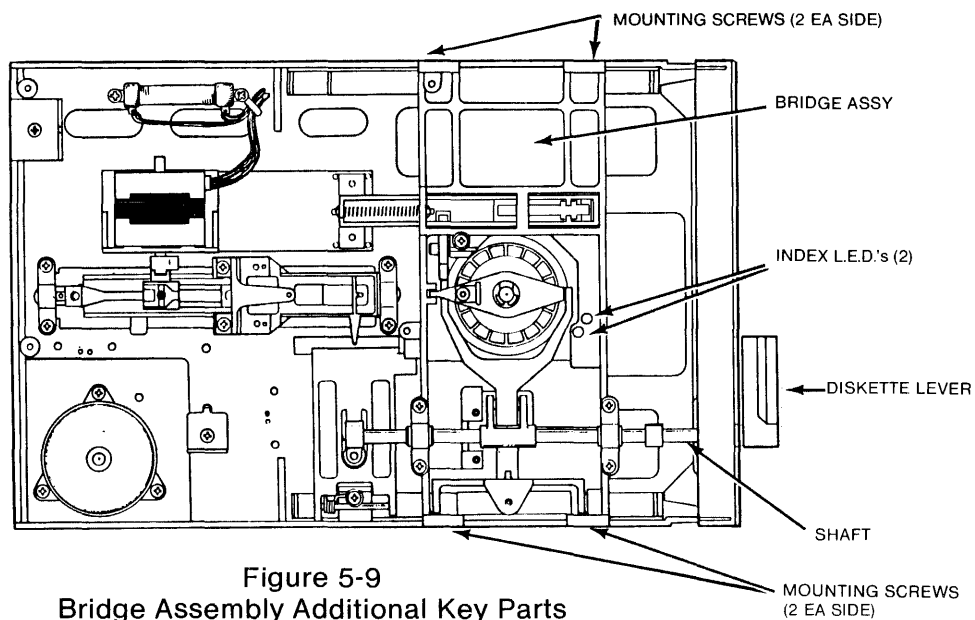

Figure 5-9
- A. Ensure that the diskette lever clamps the cone and loads the head (see Figure 5-9).